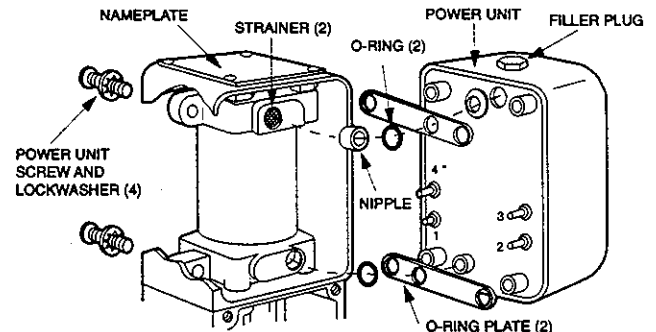

Figure 8. Exploded View of H10 (Covers Removed)
1. Remove terminal plate, as described above. Remove four screws holding power unit to frame (figure 8) and pull power unit straight away, noting position of O-rings.